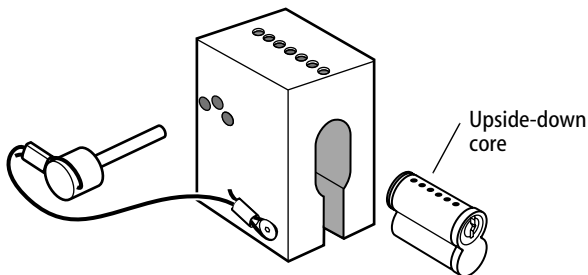

Figure 5—Inserting a combined, capped core upside-down
- 1 Put the capped, combined core into the capping block in the upside-down position, large holes on the bottom. See Figure 5.